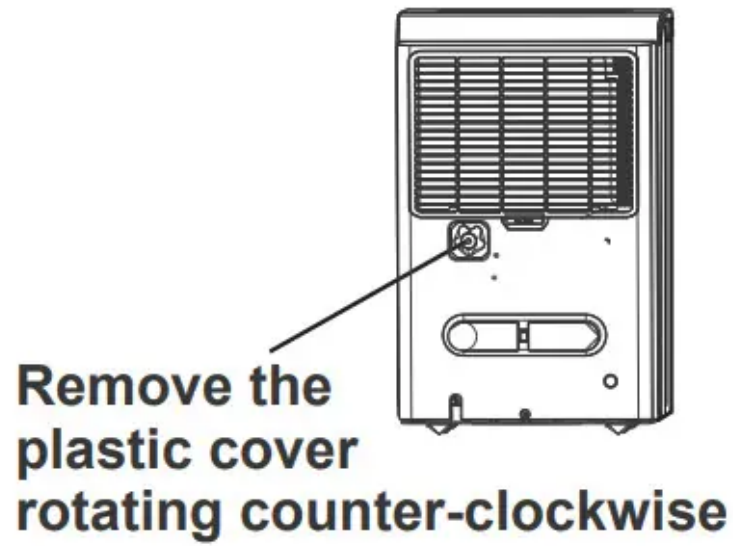

Fig. 9
- Remove the plastic cover from the back drain outlet of the unit and set aside, then insert the drain hose through the drain outlet of the unit and lead the drain hose to the floor drain or a suitable drainage facility. (See Fig. 9 and Fig. 10)